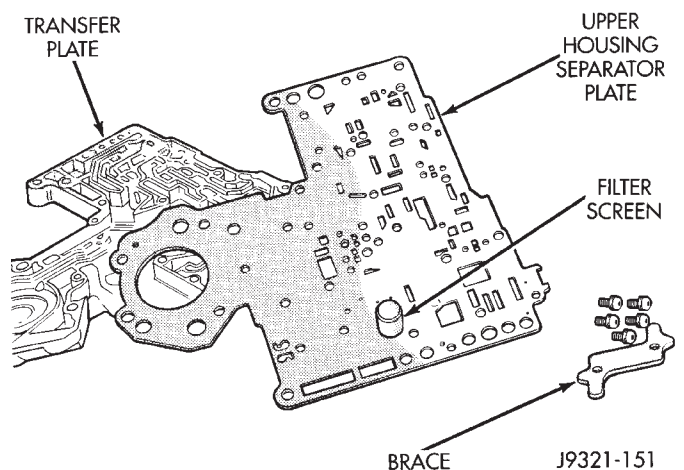

Fig. 109 Upper Housing Separator Plate Removal—RH
(24) Remove upper housing separator plate from transfer plate (Fig. 109). Note position of filter in separator plate for assembly reference.
(2) Install filter screen in upper housing separator plate (Fig. 109).
(3) Align and position upper housing separator plate on transfer plate (Fig. 109).